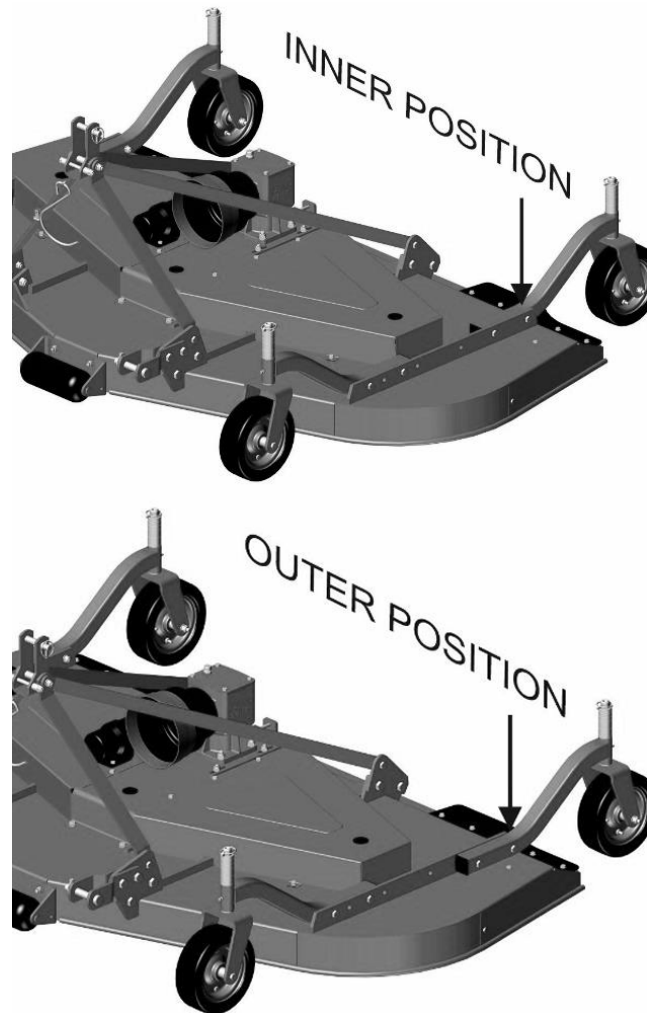

Figure 6
1. Inner Position – allows the outside edge of the Finishing Mower to be used for trimming under shrubs and fences [Figure 6, top image]
2. Outer Position – provides most clearance to avoid interference with tractor tires [Figure 6, bottom image]